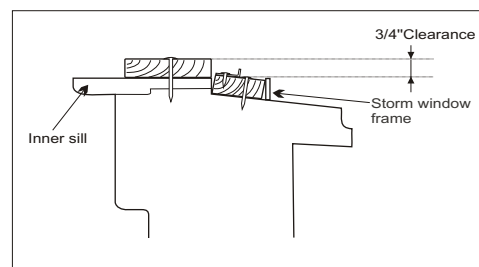

Fig.8
7. If storm window presents interference, fasten a 2" wide wood strip to the inner window sill across the full width of the sill. The wood strip should be thick enough to raise the height of the window sill so that the unit can be installed without interference from the storm window frame, as show in Fig. 8.
Install a second wood strip (approximately 6" long by 1 1/2"wide and same thickness as first strip) in the center of the outer sill flush against the back of the inner sill. Screw the L brackets into this strip. This will raise the L bracket as shown in Fig. 8.